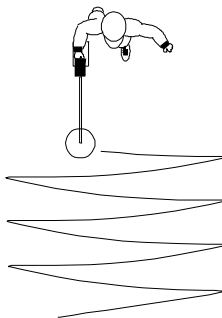
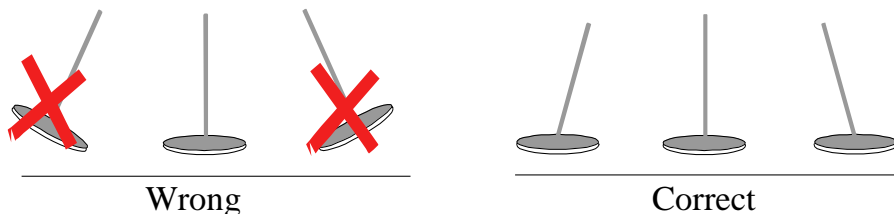

Fig.2
Fig.3
**NRG 150** working in dynamic regime - searching metal objects is made by moving search coil toward ground surface – fig.2 , fig.3
Start swinging the search coil in wide sweeps that overlap each other, as near to the ground surface as possible-Fig.2 The search coil should not touch the ground during your sweep. The pole length should be adjusted to allow this without having to lift the detector with your elbow or shoulder. The search coil should rest about one inch above the ground while you are standing erect. The angle of the search coil should allow the bottom to be parallel to the ground.